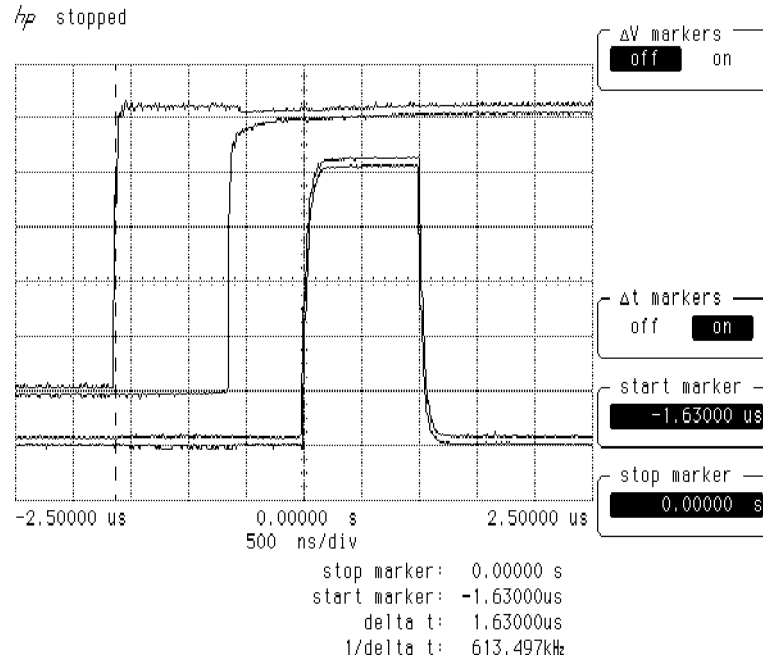

Figure 10-3. Oscilloscope Display of Minimum and Maximum Gate Delay Values
7. On the oscilloscope, press **start marker**. Use the knob to position the start marker on the upper trace on the right side of the oscilloscope display. See Figure 10-3.